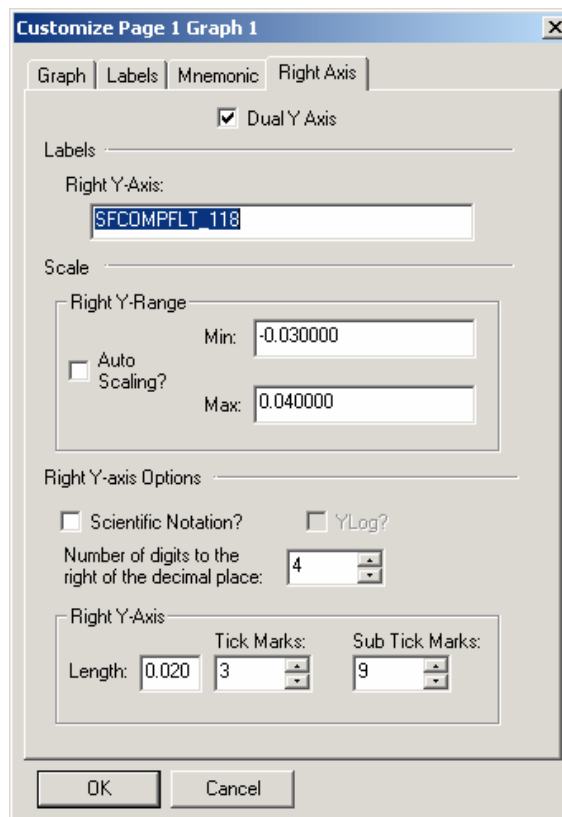

Figure 35 Right-side Y Axis Customization Screen
- Select the Right Axis tab to access the right-axis customization settings screen (see Figure 35).